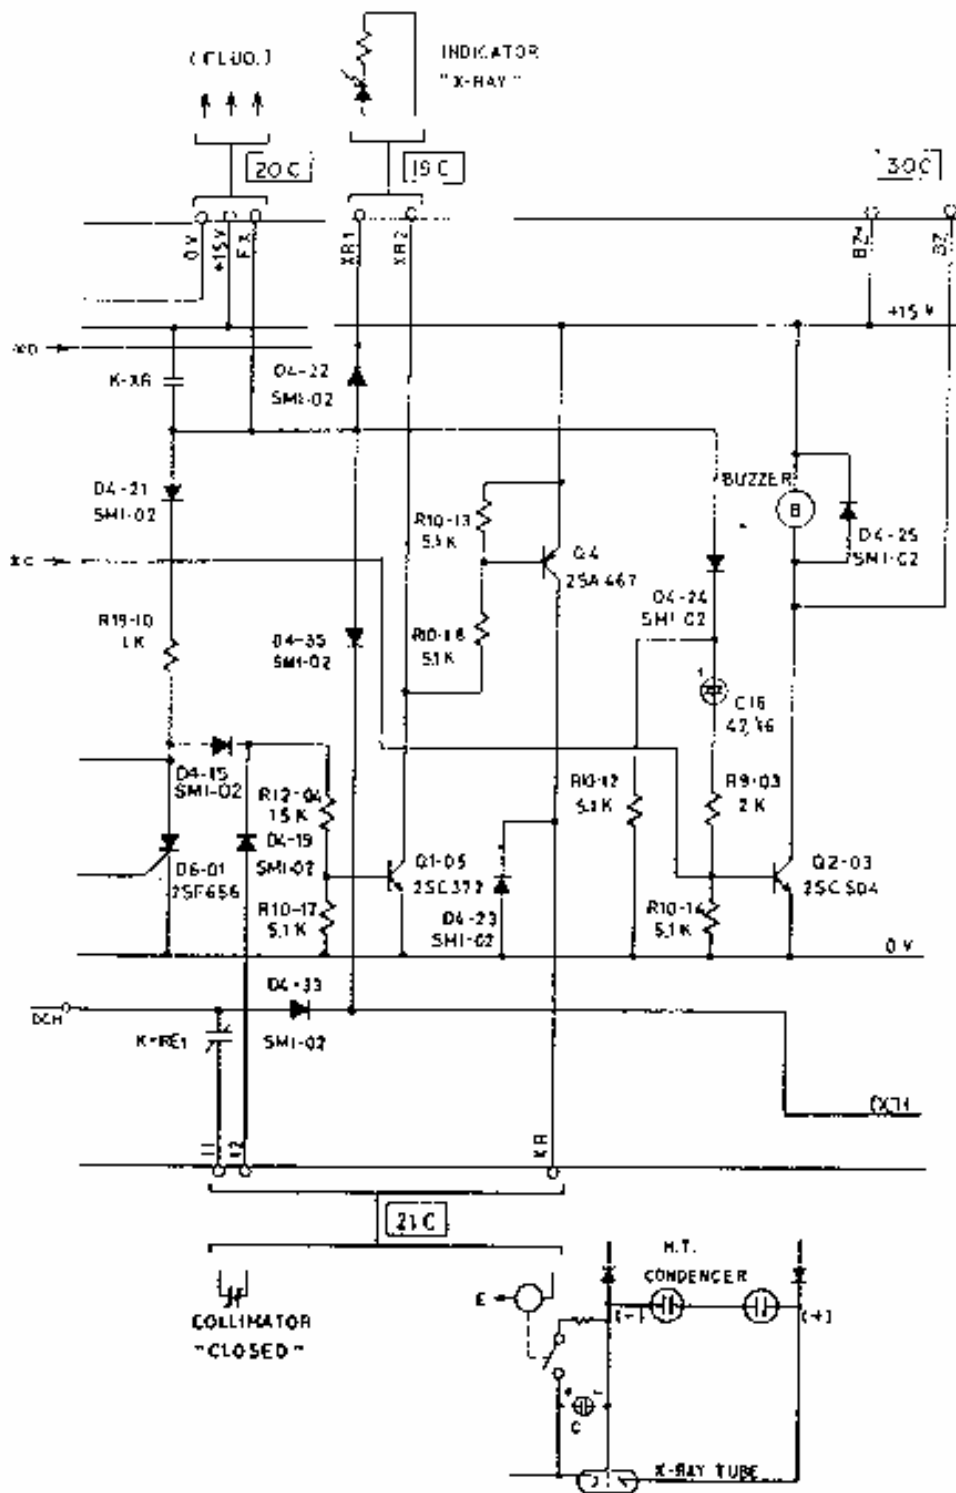

Fig. 3-4-1
(1) Figure 3-4-1 is the connection diagram of this circuit.
- (3) When radiography end signal from mAs timer circuit is applied to the gate of thyristor D6-01 (see par. 3-4-3), D6-01 is switched on and transistors Q1-05 and Q4 are cut off. Then the lead relay in the high tension generator is turned off, so that "X-RAY" lamp LED goes out.
- (4) The lower right corner of Fig. 3-4-1 is a rough sketch of X-ray tube grid control circuit. In this diagram, C is the electrostatic capacity between core wires of high tension cable. When charged into the high tension condenser, the electrostatic capacity C is charged in the polarity shown in the diagram. By this voltage, a negative bias is applied to the grid of X-ray tube, so that X rays are not radiated. Next, when the lead relay is turned on by "X-RAY" operation, capacity C is short-circuited through a small resistance. And the grid bias of X-ray tube disappears, and x rays are radiated.
- (5) When x rays are radiated, the buzzer sounds in the following circuit: